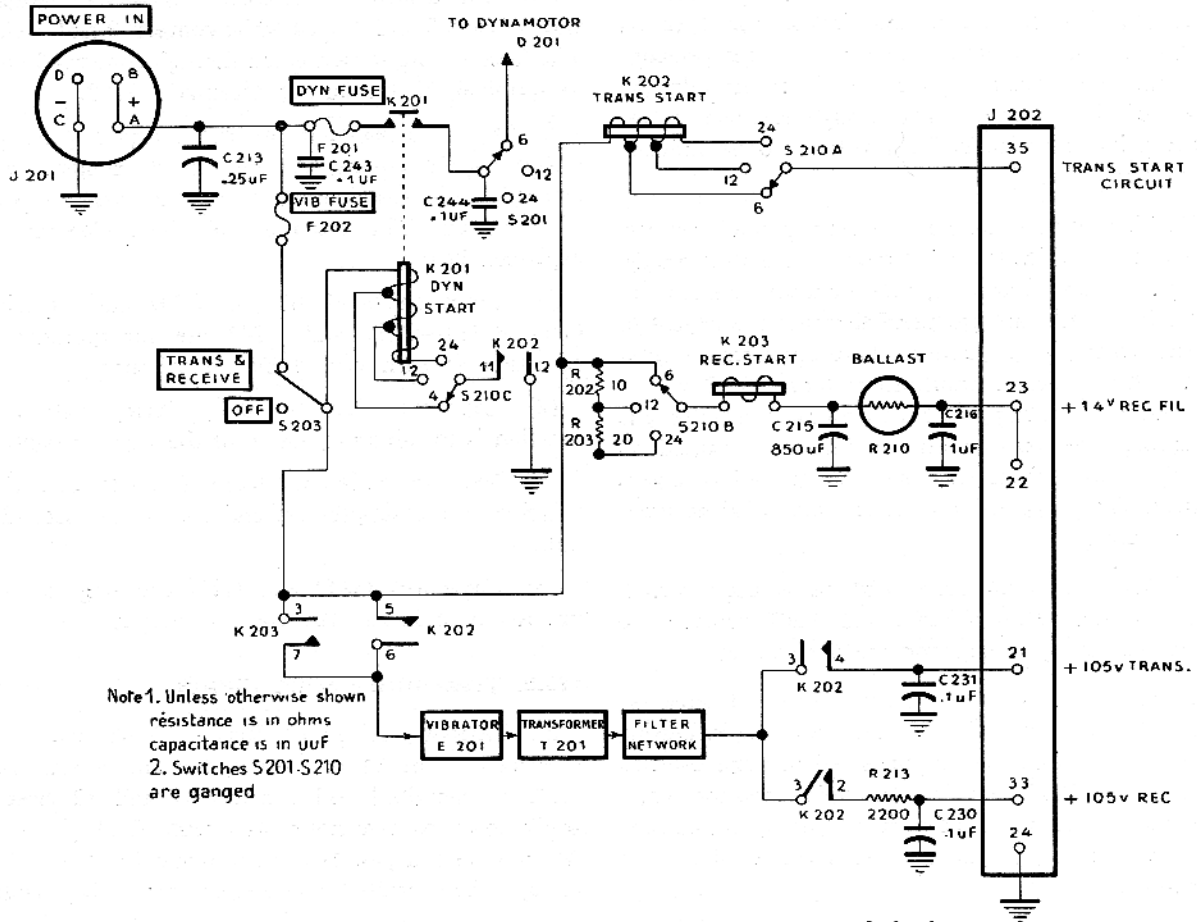
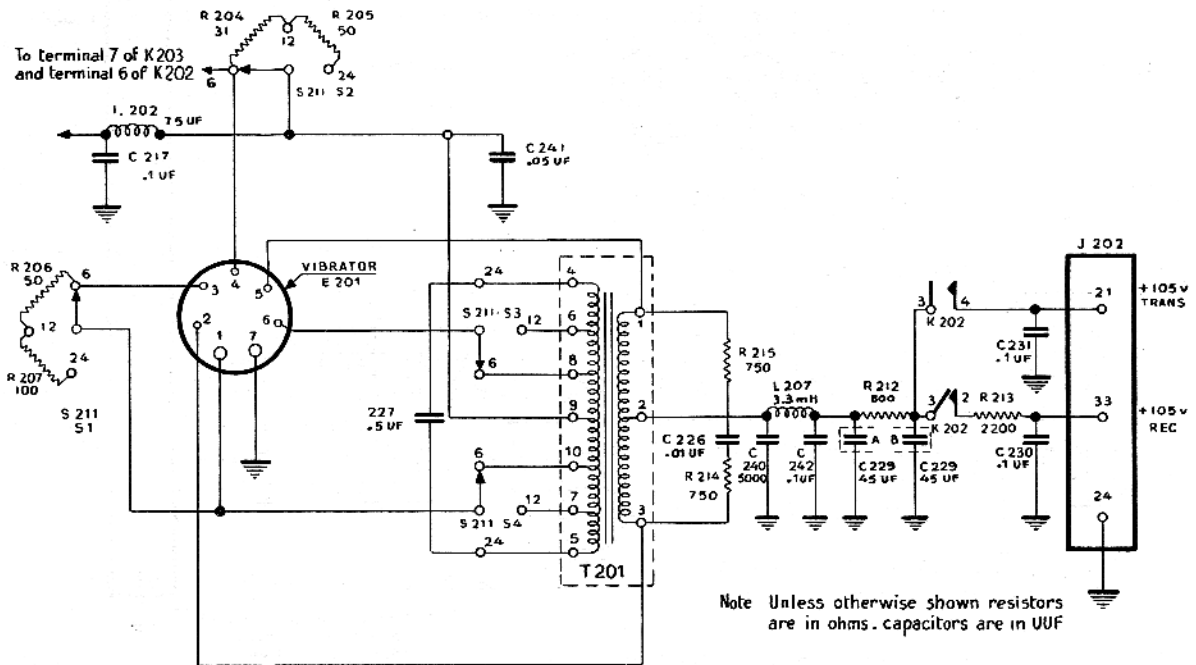

Figure 90.2. Dynamotor-Power Supply DY-88/GRC-9, control circuits
Figure 90.3. Dynamotor-Power Supply DY-88/GRC-9, vibrator circuits.
a. FUSES. The vehicular battery is connected to the + and — terminals of the dynamotor power supply across capacitor C213, (fig. 90.2). C213 is an r-f bypass capacitor which prevents the input cables from radiating r-f noise that would interfere with radio reception. DYN FUSE F201 protects the dynamotor circuits. *This fuse must be changed each time the battery voltage is changed* (par. 45.1). VIB FUSE F202 protects the vibrator circuits.
b. SWITCHES. The voltage selector switches, S201, S210 and S211 in the dynamotor power supply are ganged to one common shaft and perform the function of connecting the correct circuit components when a 6, 12, or 24 volts vehicular battery is used. There are several wafer sections of S210B, C and S211—S1, S2, S3, S4, (figs. 90.2 and 90.3). TRANS & RECEIVE-OFF switch S203 is a single-section rotary switch.
## 125.3. Receiver Filament Supply (fig. 90.2)
a. Synchronous vibrator E201 and transformer T201 (fig. 90.2) are used to supply 105 volts dc at 17 ma to the receiver plate and screen circuits during stand-by periods, and 105 volts dc at 45 ma to the plate and screen circuits of V5 and V6 in the receiver (fig. 65) and to the oscillator, doubler, and modulator plates and screens of the transmitter, during send periods (figs. 81 and 82).
b. Receiver start relay K203 is energized when control Ⓢ is at the SEND or STANDBY position (par. 125.3). Battery current passes through closed contacts 3 and 7 of K203, or 5 and 6 of K202, or both (fig. 90.2), to voltage selector switch S211—S2 and to the center tap (terminal 9) of transformer T201 (fig. 90.3). S211—S2 introduces the proper resistance into the circuit to permit the circuit to operate from each of the three different battery voltages used.
(1) The series-driven vibrator coil, connected from pin 4 to the stationary contact, and the movable arm,
connected to pin 7, constitute an ordinary buzzer similar to the doorbell type (fig. 90.3). However, the vibrating arm or reed moves back and forth many times more rapidly than in the familiar doorbell buzzer. The current through the vibrator coil attracts the reed, breaking the circuit to ground. This de-energizes the coil and the reed swings back in the opposite direction, completing the circuit to ground again. This action continues, causing the reed to swing back and forth rapidly. The movable arm connects to ground through pin 7, and also makes contact with points 1 and 6 in the two opposite directions of its vibration, thus connecting each pin alternately to ground. (Pins 2 and 5 are considered in subparagraph (2) below.) Pins 1 and 6 are connected to voltage selector switches S211—S3 and S211—S4, which select the proper voltage for operation of transformer T201. Therefore, as the movable arm vibrates alternately to connect the top and the bottom of the primary of T201 to ground, the center tap (terminal 9) of the transformer connects to the positive terminal of the battery. Because of this center tap, the current in the primary flows from the center to either the top or the bottom half of the primary, depending on whether pin 1 or pin 6 of the vibrator is connected by the vibrating arm to ground. Therefore, the function of the portion of the vibrator considered so far is to cause an alternating
a. TRANSMITTER START RELAY. When control Ⓢ is turned to the SEND position, transmitter start relay K202 is energized and contacts 11 and 12 close to apply power to dynamotor start relay K201 (fig. 90.2). At the same time, contacts 5 and 6 and 3 and 4 of K202 close, while contacts 2 and 3 open (par. 125.6). Voltage
*a.* Closed contacts 5 and 6 of K202 apply battery power to the vibrator portion of the dynamotor power supply (fig. 90.2). The 105-volt output is applied through closed contacts 3 and 4 of K202 (contacts 2 and 3 now are open), terminal 21 of J202, and closed contacts 18 and 19 of keying relay K101 to the receiver (fig. 65).